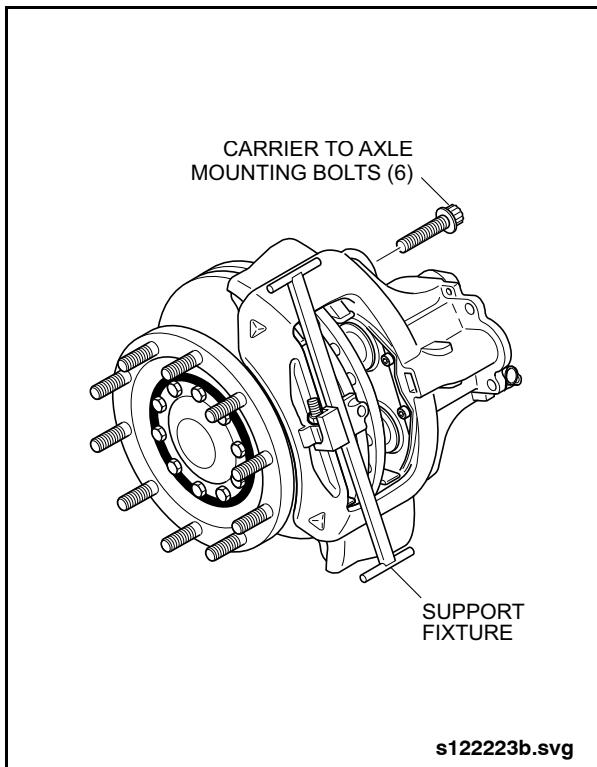

Fig. 1-56: Brake Caliper Removal
6. Install the caliper support fixture (Item 1 from special tools list). See "Fig. 1-56: Brake Caliper Removal" on page 63.